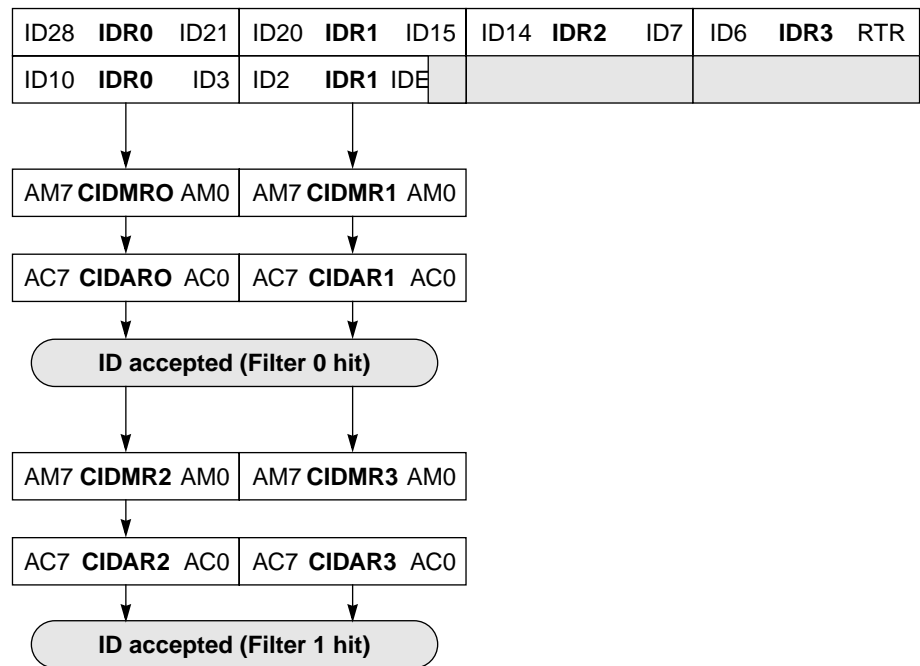

Figure 46 16-bit Maskable Acceptance Filters
- Four identifier acceptance filters, each to be applied to a) the 11 bits of the identifier and the RTR bit of CAN 2.0A messages or b) the 14 most significant bits of the identifier of CAN 2.0B messages. Figure 46 shows how the first 32-bit filter bank (CIDAR0–3, CIDMR0–3) produces filter 0 and 1 hits. Similarly, the second filter bank (CIDAR4–7, CIDMR4–7) produces filter 2 and 3 hits.